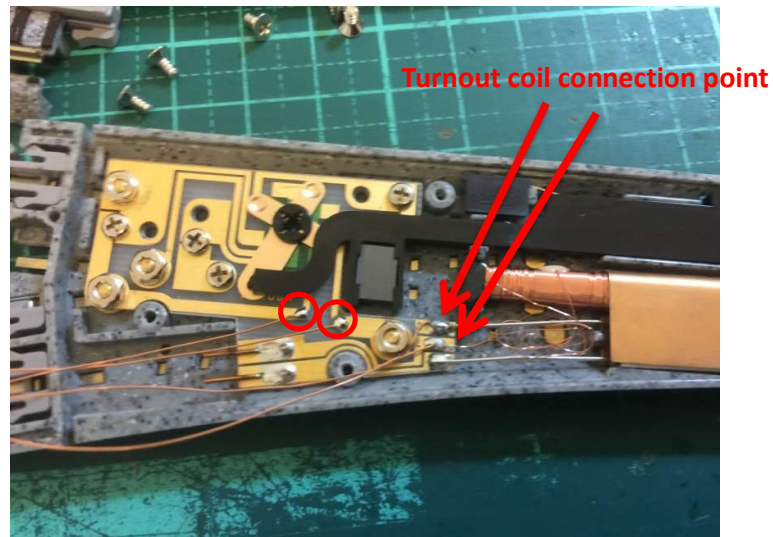

figure 1
- 3.1 In the figure 1, a track power supply connects to the power supply terminal of the decoder. The arrow is the output terminal of the decoder. (If the turn signal is in the opposite direction, please connect the line).